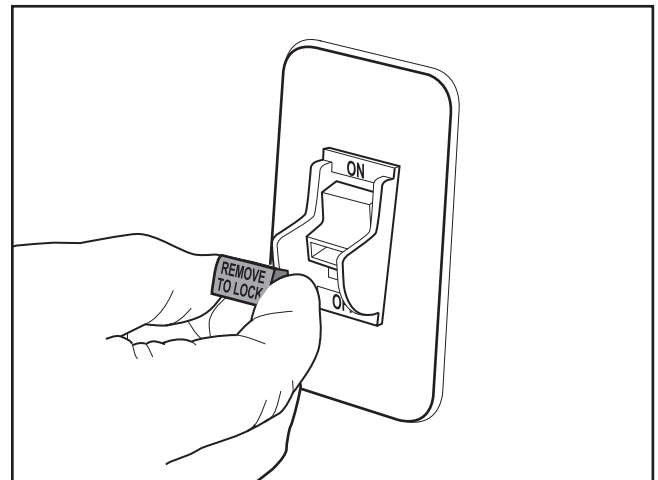

Figure 11. Removing key from toggle switch.
7. Remove key from toggle switch, as shown in **Figure 11**.